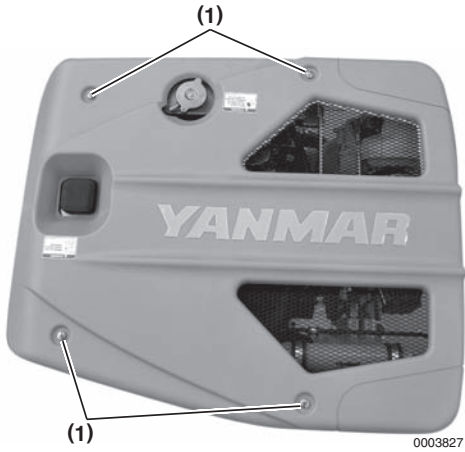

Figure 10
1. Turn screws (**Figure 10, (1)**) one-quarter turn to loosen.